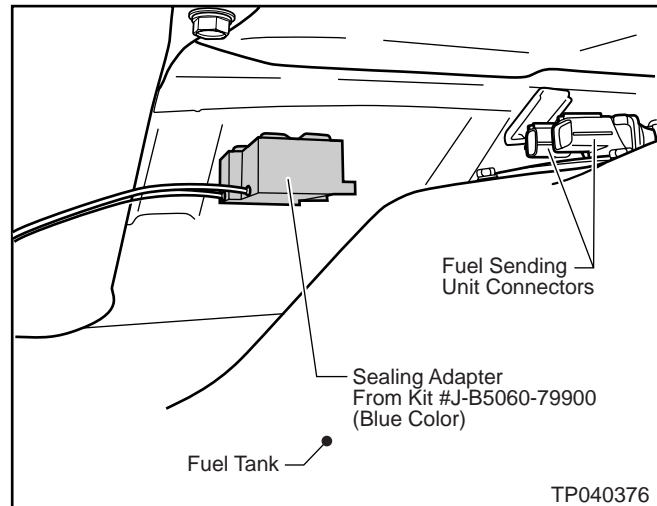

Figure 10
1. Install the Sealing Adapter (blue color adapter) onto the Fuel Sending Unit Connectors until it clicks (locks) in place. See Figure 10.